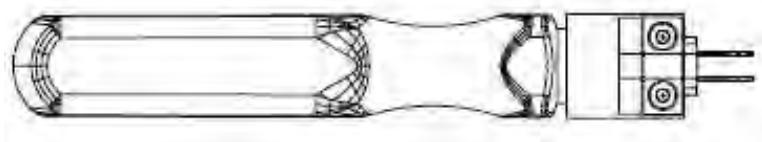
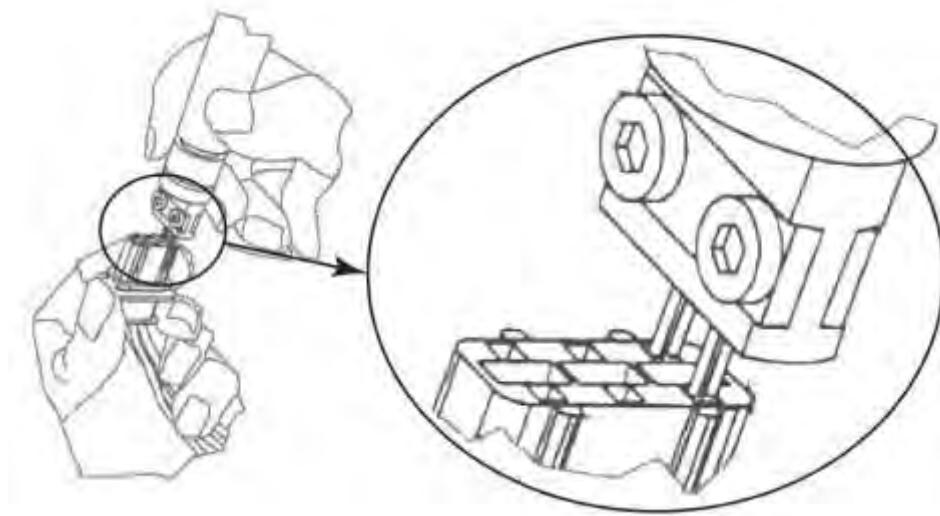

Figure 71
Figure 72
- (3) To release the contacts, the locking spring (tang) has to be pressed down by the pins of the disassembly tool. Insert Bosch disassembly tool 1 928 498 167 (Figure 71) into connector release openings as shown in Figure 72.